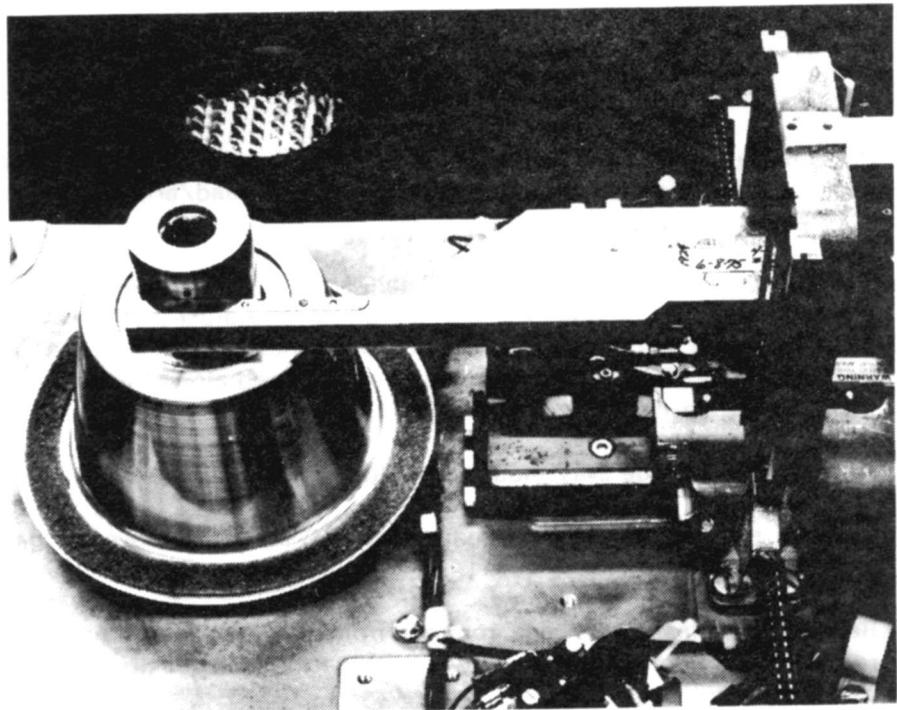

FIGURE 5-17. CARRIAGE WAY ALIGNMENT
8. Place the alignment gauge on the spindle and install the stepped end of the alignment tool arm on the Tee-block in place of head/arm 9-A. (See Figure 5-17.)
9. Holding the arm in place with one hand, slowly and carefully load the heads and then slide the carriage through its full travel. Adjust the way by rotating it about its locating dowel pin to obtain 0.005 inches clearance between the arm and the gauge. This clearance must be maintained along the entire length of travel of the carriage (Figure 5-17).